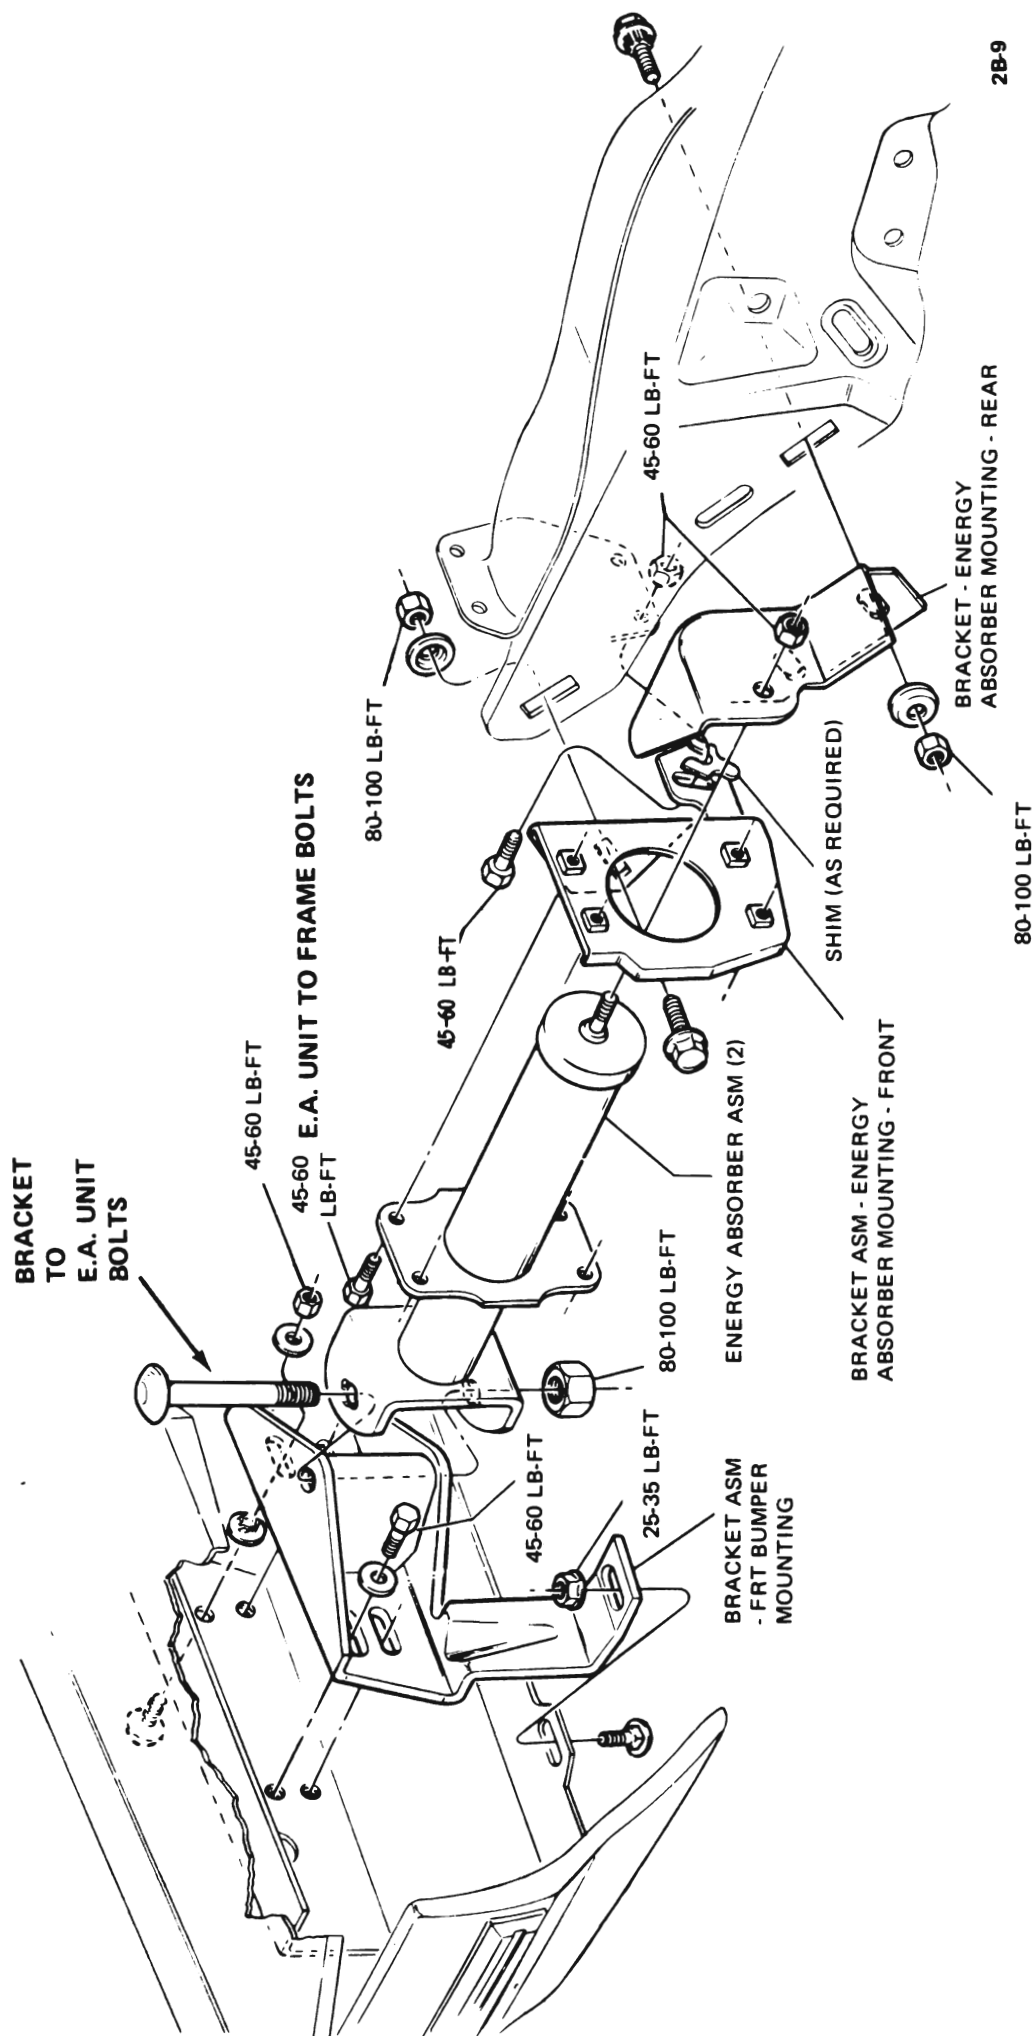

Figure 2B-9 Energy Absorbing Unit Mounting "A" Series
2. Remove the bolts that attach the energy absorbing unit bracket to reinforcement and bumper (Figure 2B-13). With the aid of a helper remove the bumper assembly.
3. Remove the 2 energy absorbing unit front bracket to unit bolts and remove bracket (Figure 2B-14).